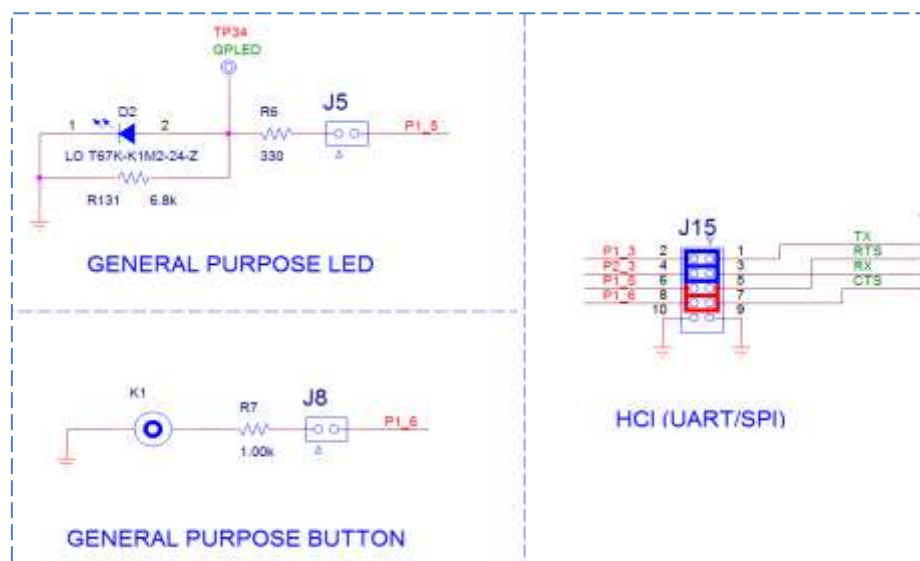

Figure 12: Full UART signals connectivity
- Jumpers in red must be placed in J15 between pin 5-6 and pins 7-8 for RTS and CTS respectively. (Figure 12)
- Jumpers should be removed from J5 and J8. By this way signal P1\_5 and P1\_6 are not connected anymore to LED D2 and key K1, respectively (Figure 12)